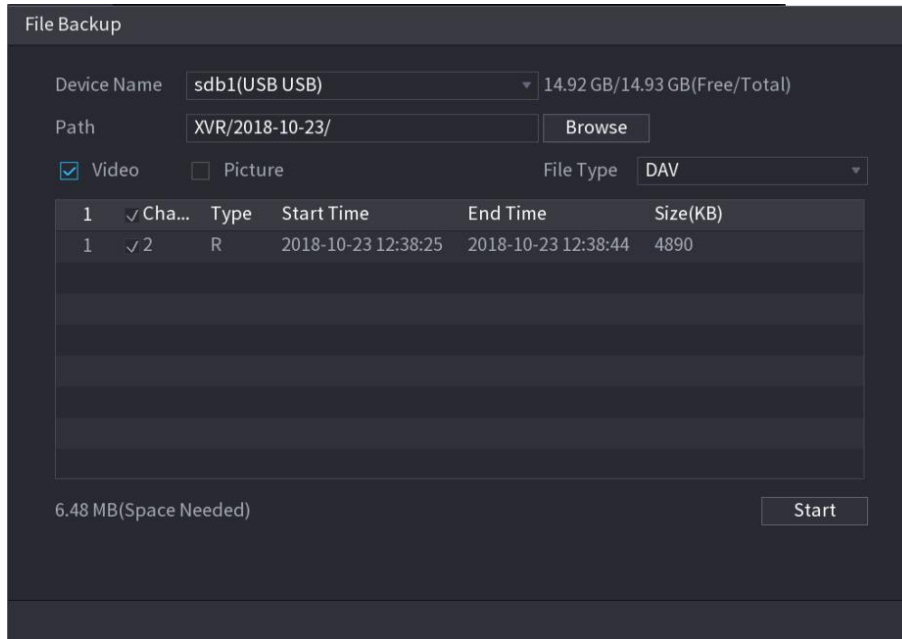

Figure 5-154
- To back up the recorded files to the external storage device, select files, click **Backup**, select the save path and file type, and then click **Start**. See Figure 5-154.